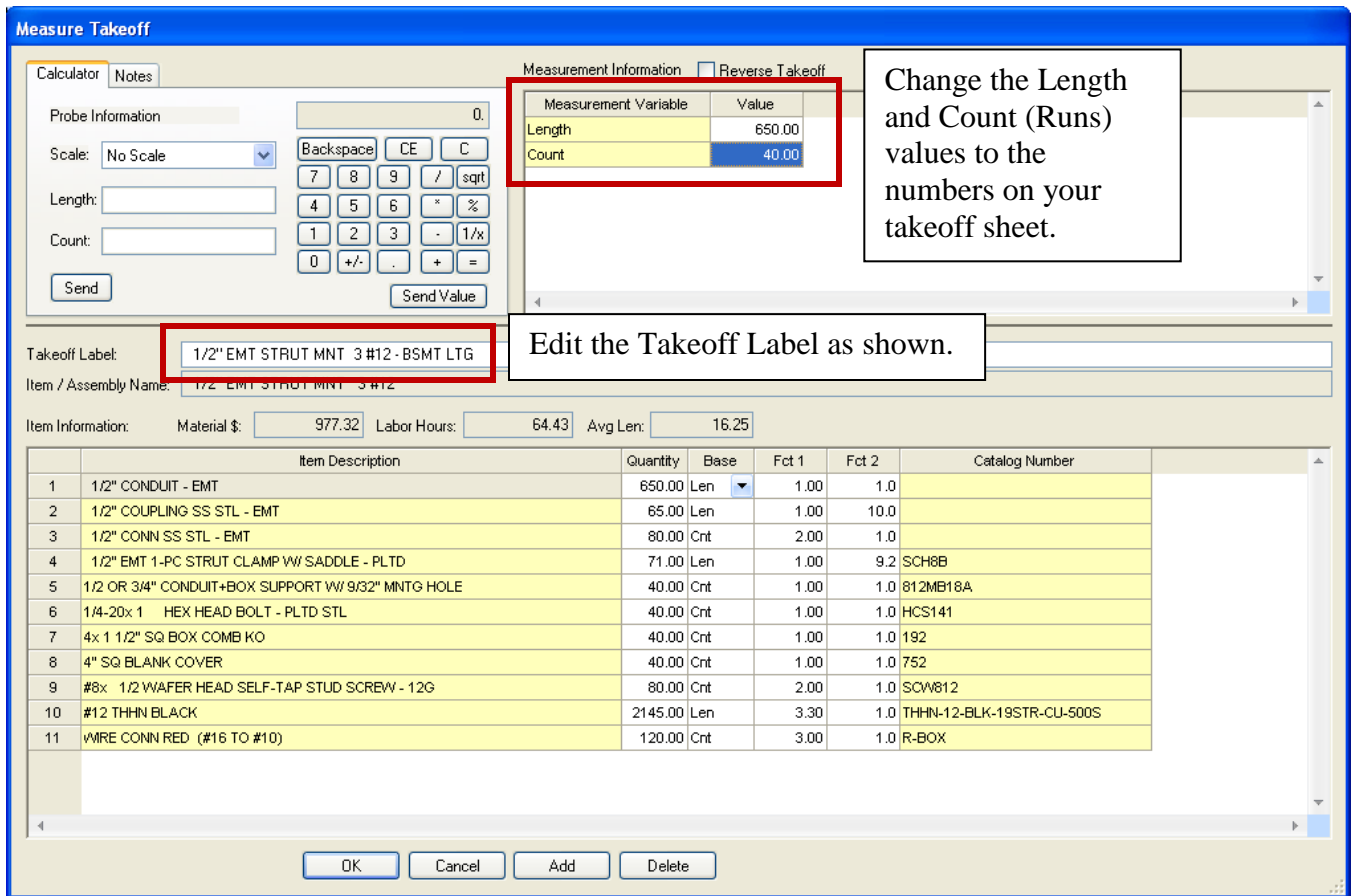

Figure 2
9. In the Measure Takeoff window make the changes as shown in Figure 2.